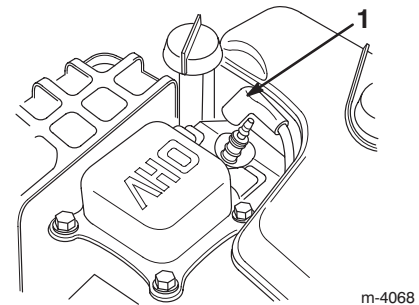

Figure 25
3. Disconnect the wire from the spark plug and ensure that the wire does not contact the spark plug (Fig. 25).
3. Disconnect the wire from the spark plug and ensure that the wire does not contact the plug (Fig. 25).
2. Disconnect the wire from the spark plug and ensure that the wire does not contact the plug (Fig. 25).